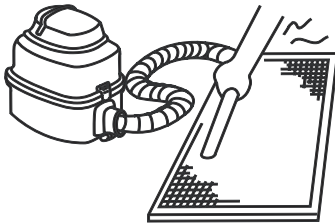

Figure 13.3
- The air intake side should face up when using a vacuum cleaner. (Refer to Fig.13.3)